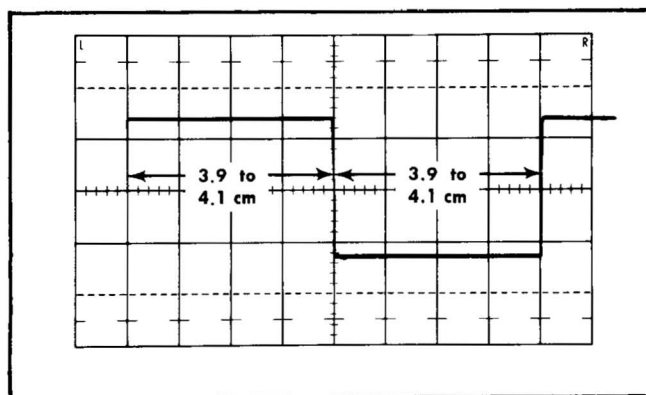

Fig. 5-2. Typical test oscilloscope display when checking Calibrator Duty Cycle.
- g. Check—Length of each segment of the square wave. 3.9 to 4.1 cm (see Fig. 5-2).
- g. Check—Length of each segment of the square wave, 3.9 to 4.1 cm (see Fig.5-2).
- Check—Length of each segment of the square wave — 3.9 cm to 4.1 cm (see Fig. 5-2).